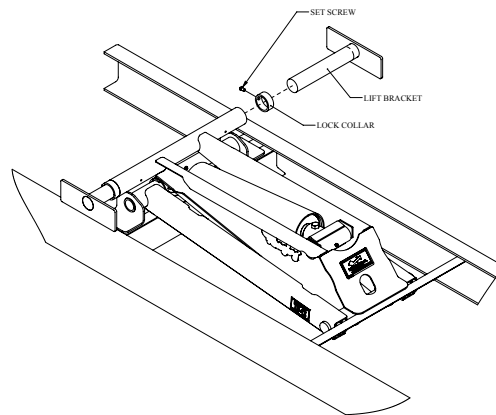

Figure 8
2. Slide a lock collar onto each lift shaft. Slide a lift shaft with lock collar into each end of the hoist lift tube. (Figure 8)